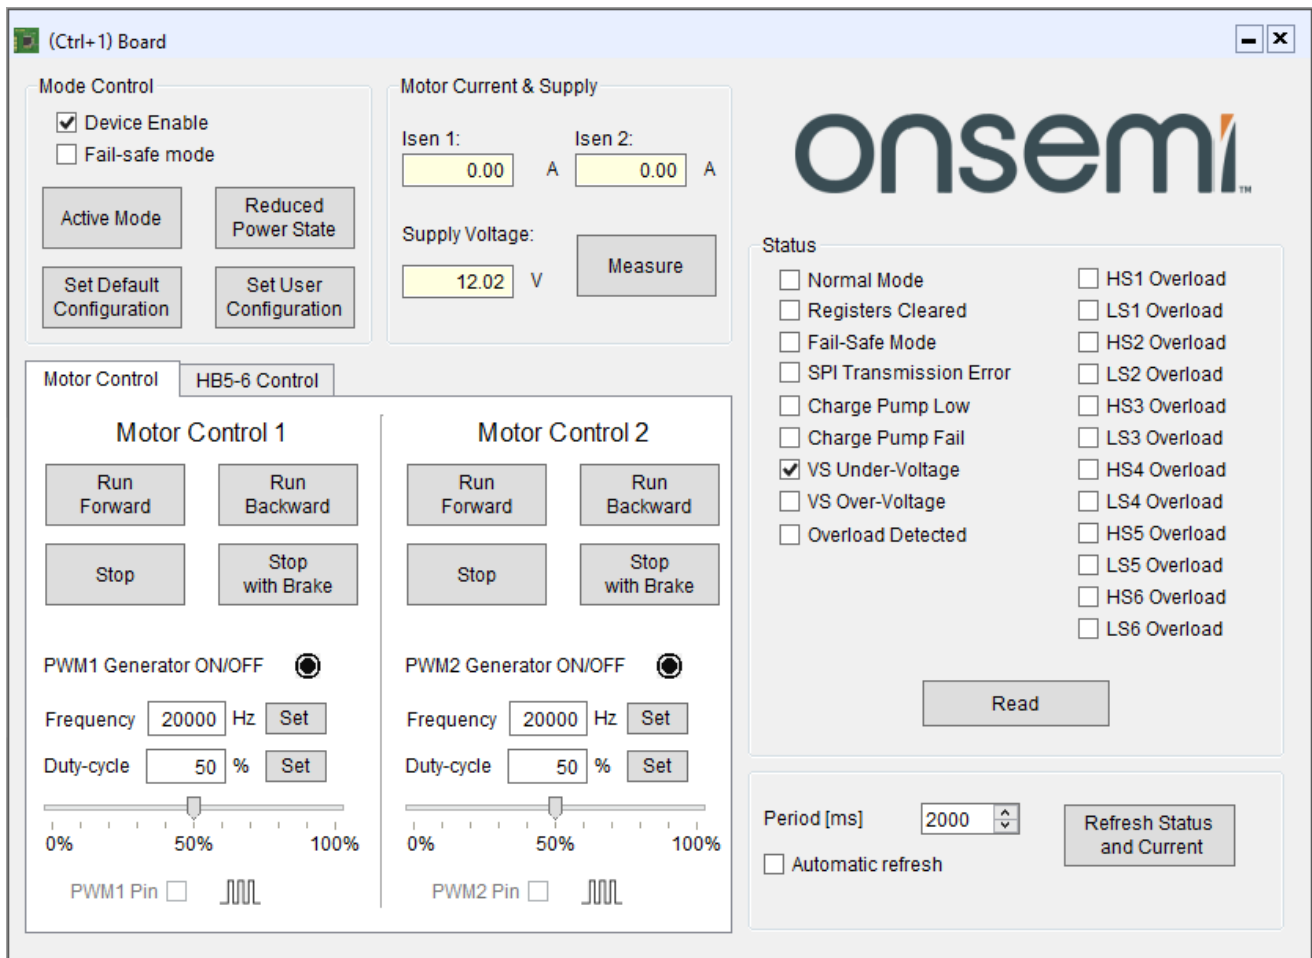

Figure 9. NCV7546 Controller Framework, Board Window
12. "Board" window (Figure 9) demonstrates application controls of two channels including device mode control, status readout, MCU PWM generators and load current measurements.